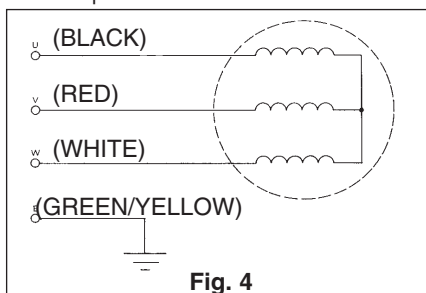

Fig. 4
(1) Wiring
- Wire as indicated for the appropriate start system as shown in Fig. 4